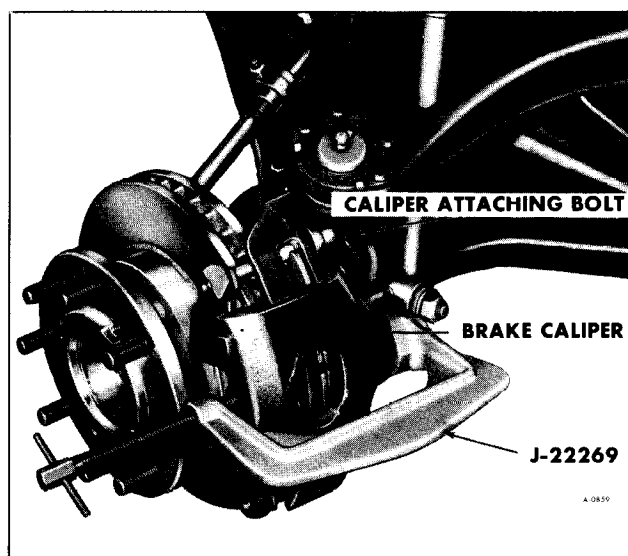

Figure 16—Tool J-22269 on Caliper
4. Position Tool J-22269 on caliper as shown in Figure 16.